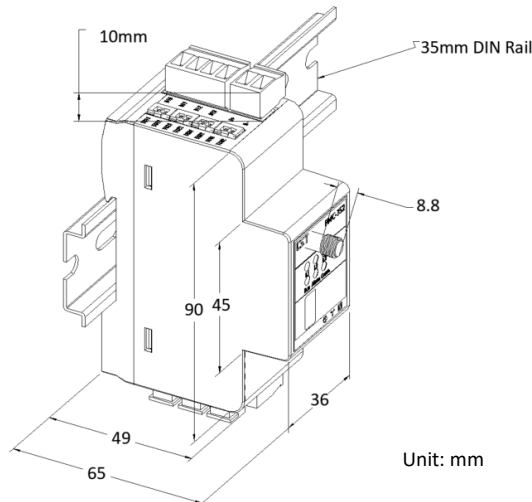

Figure 2-8 DIN-Rail Installation
3. Align the top of the mounting channel at the back of the PMC-352-D at an angle against the top of the DIN Rail as shown in Figure 2-8 below.